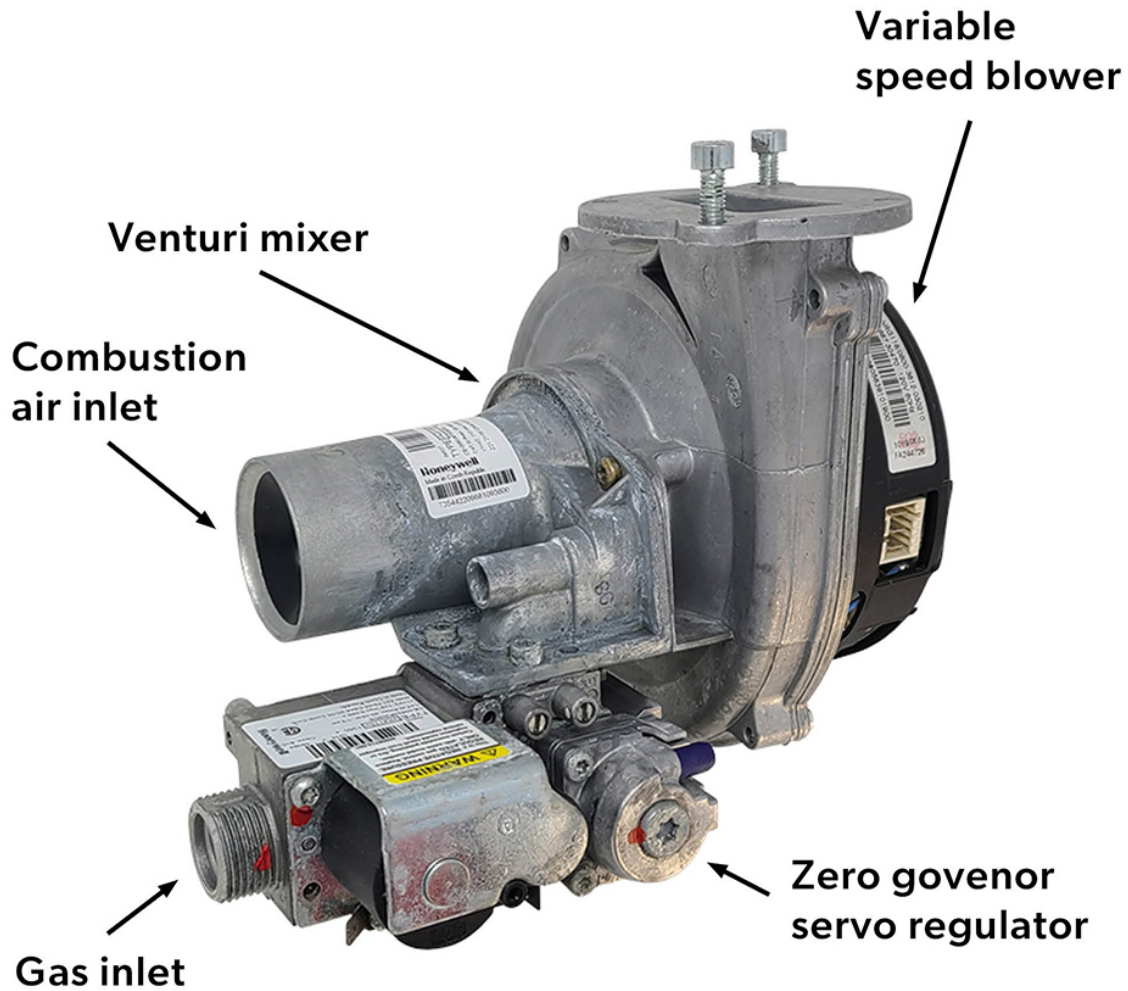

Figure 39. Venturi Mixing Burner Assembly
Commercial and residential modulating/condensing boilers and on-demand water heaters, will have all of the components in one packaged burner assembly (Figure 39). A zero governor servo regulator is incorporated into the combination gas valve. Instead of a butterfly valve to adjust the combustion air flow a variable speed motor is used on the blower to change the air flow. As the blower modulates to meet the heat demand the zero governor changes the gas input to automatically achieve proportional mixing.
- Figure 39. “Venturi Mixer Burner Assembly” by Rod Lidstone is licensed under a CC BY-NC-SA licence (<https://creativecommons.org/licenses/by-nc-sa/4.0/deed.en>).